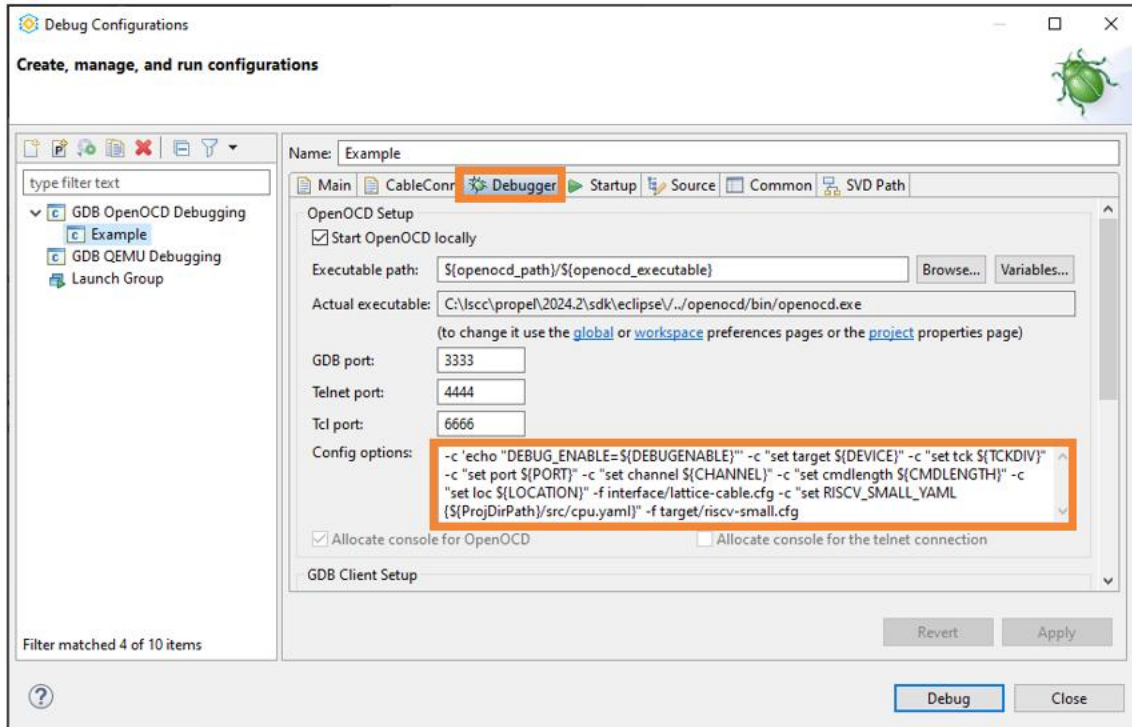

Figure 3.40. Debugger Tab of Debug Configurations
6. Select the **Debugger** tab (Figure 3.40). It is critical that the **Config options** field contains the correct command-line options to be passed to OpenOCD.